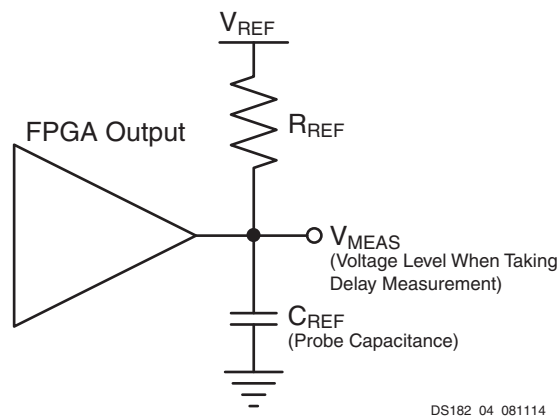
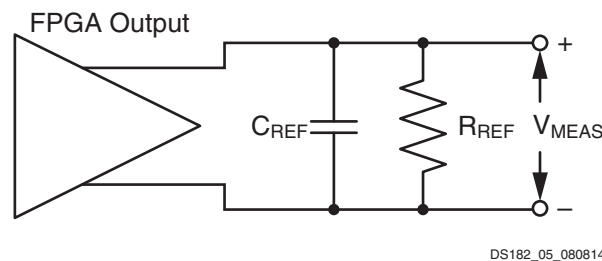

Figure 1: Single-Ended Test Setup
Figure 2: Differential Test Setup
- This is an input voltage reference that bears no relation to the  $V_{REF} / V_{MEAS}$  parameters found in IBIS models and/or noted in Figure 1.
Output delays are measured with short output traces. Standard termination was used for all testing. The propagation delay of the trace is characterized separately and subtracted from the final measurement, and is therefore not included in the generalized test setups shown in Figure 1 and Figure 2.